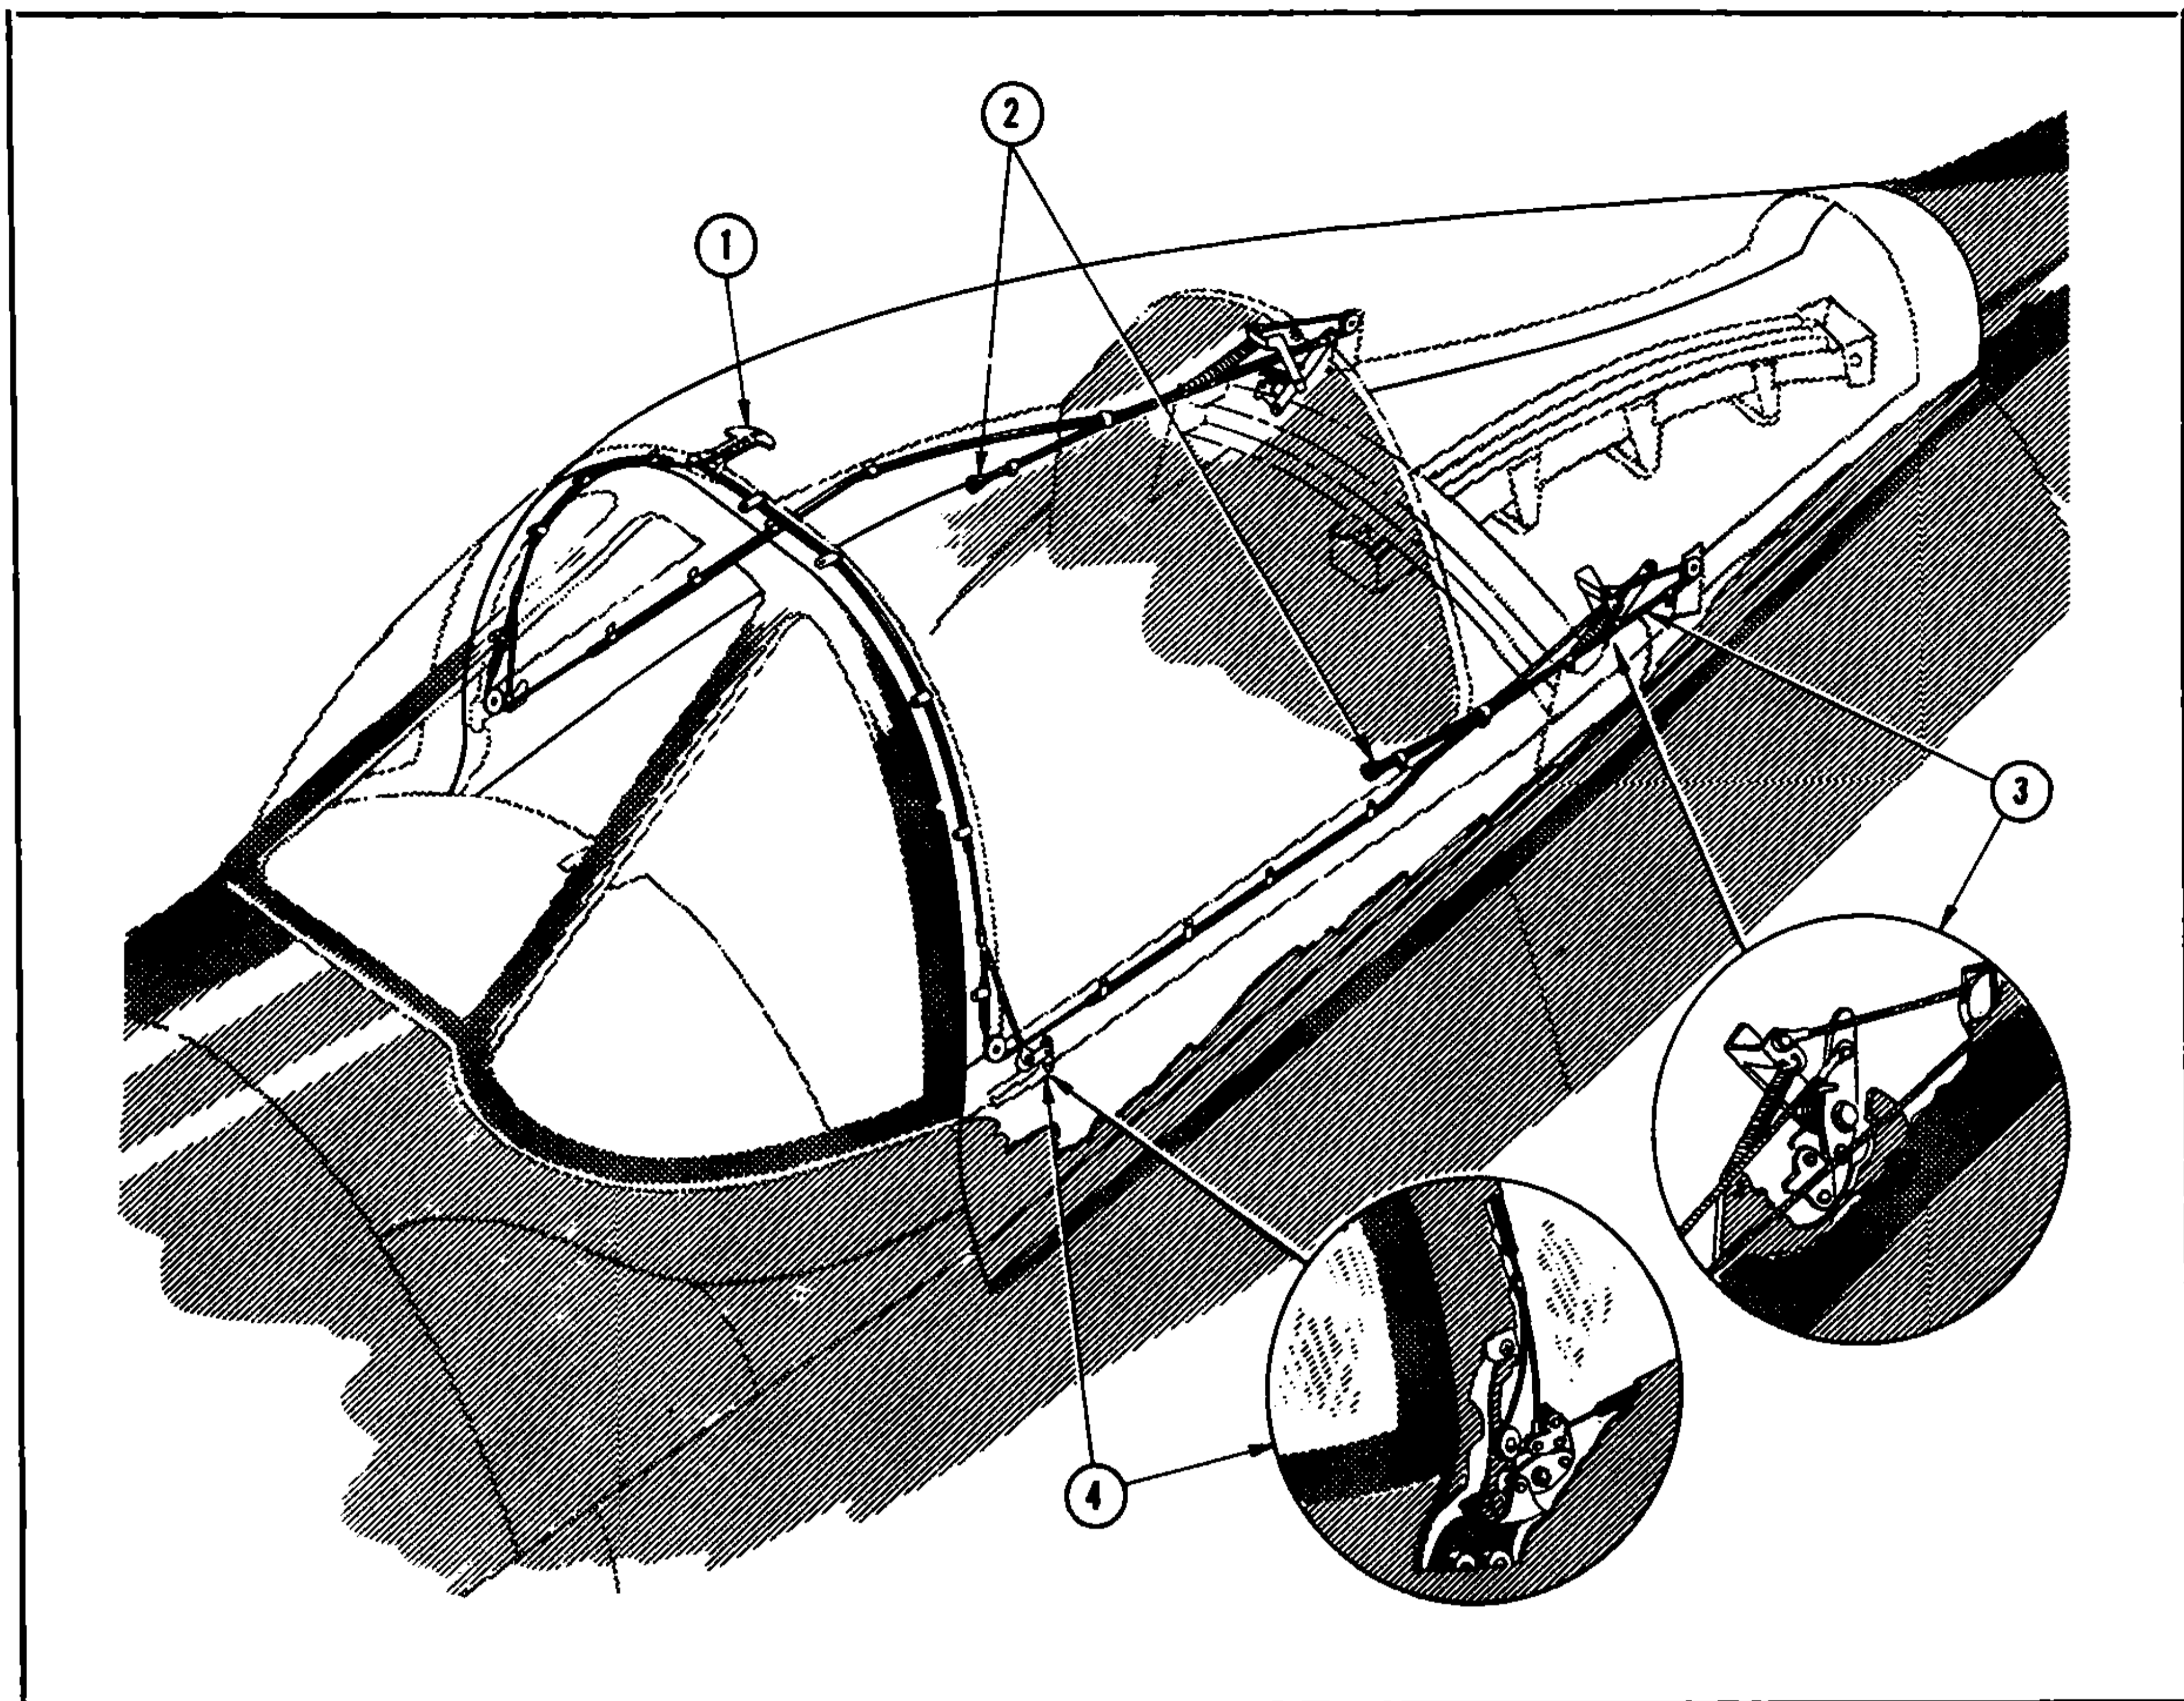

Figure 47 — Canopy Jettison Mechanism
b. EMERGENCY RELEASE. (See figure 47.) — The canopy may be detached from its trucks and jettisoned by pulling the emergency release handle (1). The release mechanisms, (3) and (4), are safetied with shearable wire to prevent accidental operation, so it is necessary to pull the emergency handle with a positive motion to fully release the canopy.